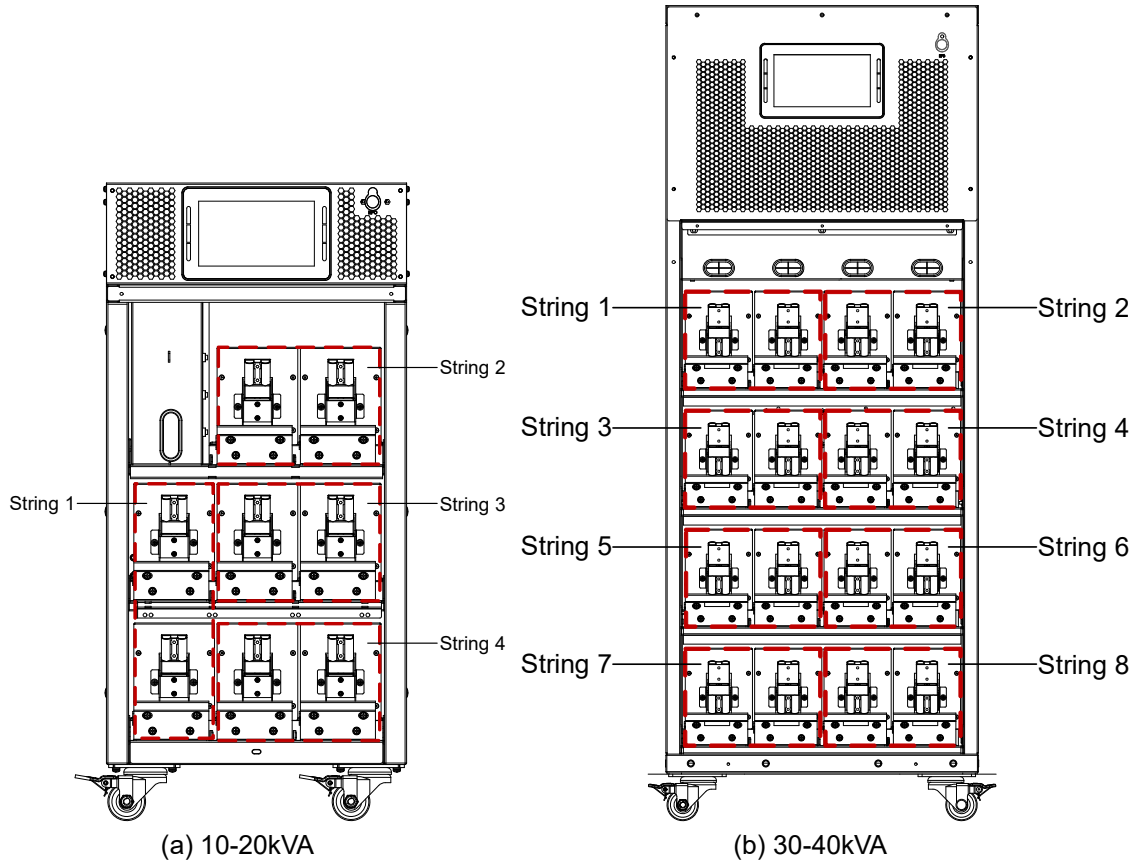

Figure 3-11 Battery Strings Diagram
(2) Remove the plate in front of the battery shelves.
(3) Holding the handle, install the battery strip one string at a time from the bottom and up, as shown in Figure 3-11.